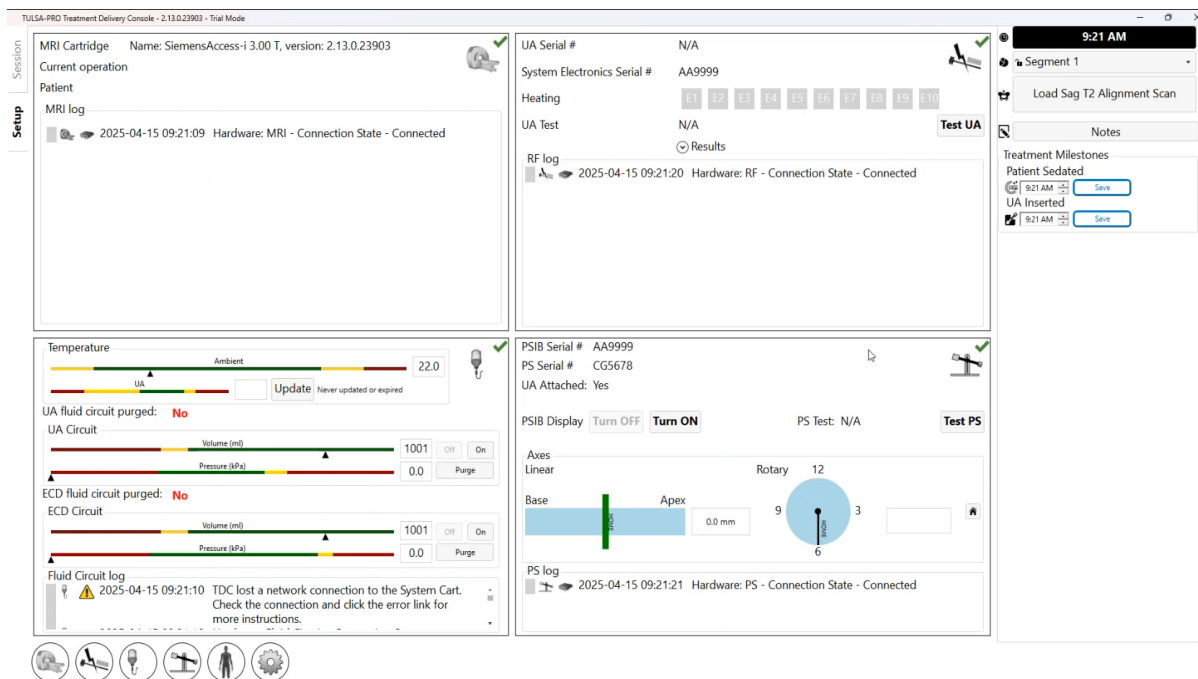

Figure 8: Setup workspace of the TDC software
3. After selecting **New Session**, you will enter the **Setup** Workspace (*Figure 8*) where you can ensure all equipment is functioning properly before proceeding.